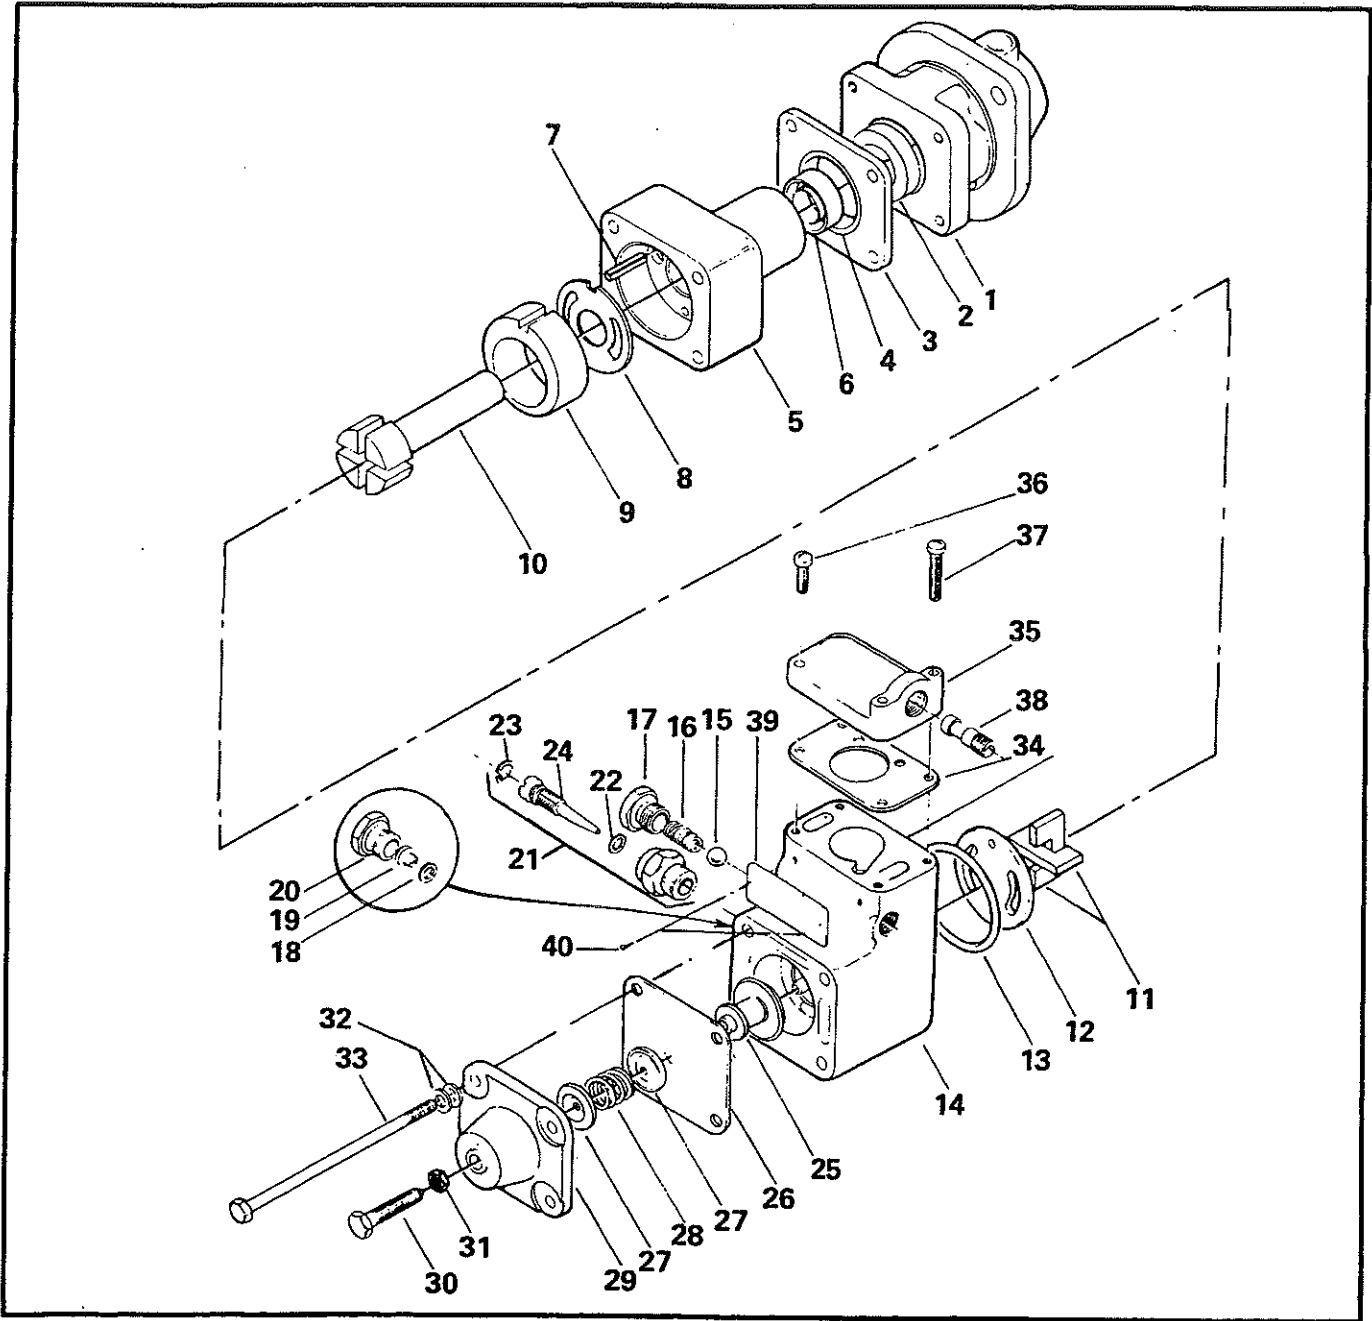

FIGURE 40-01. FUEL PUMP ASSEMBLY.
A. Place pump in suitable fixture and remove all lockwire; and fittings if necessary. Refer to exploded view (Figure 40-01) and proceed as follows: Loosen pressure regulating screw (30) to relieve pressure on relief valve spring. Remove four bolts (33) and washers (32) and carefully separate parts (29 and 14), being careful not to damage parting surfaces. Remove plates (27) and spring (28). Diaphragm (26) should be removed and discarded at this time. Remove plunger (25), being careful not to damage face.
B. Remove plug (17), spring (16) and ball (15) from body (14). Remove plug (20), jet (19) and gasket (18) or adjusting needle (24), "O" ring (22) and plug from body. Remove screws (36) and (37) from vapor separator cover (35) and remove gasket (34). Remove ejector (38) from cover.
A. Reassemble basic pump (5 through 13) in reverse order of disassembly. Refer to Figure 40-01 and install seal (6) in body (5). Install pin (7), plate (8) and liner (9) in body (5). Plate (8) may be reused by turning over if not worn from previous overhaul. Be sure liner is installed with proper rotation lettering visible. Use light machine oil to lubricate shaft (10) and install in pump. Install blades (11) in position and lubricate lightly. Install plate (12) and seal (13) to complete basic pump assembly. Install seal (2) in adapter (1). Install insulator (3) and bushing (4) on pump assembly and insert into adapter assembly.